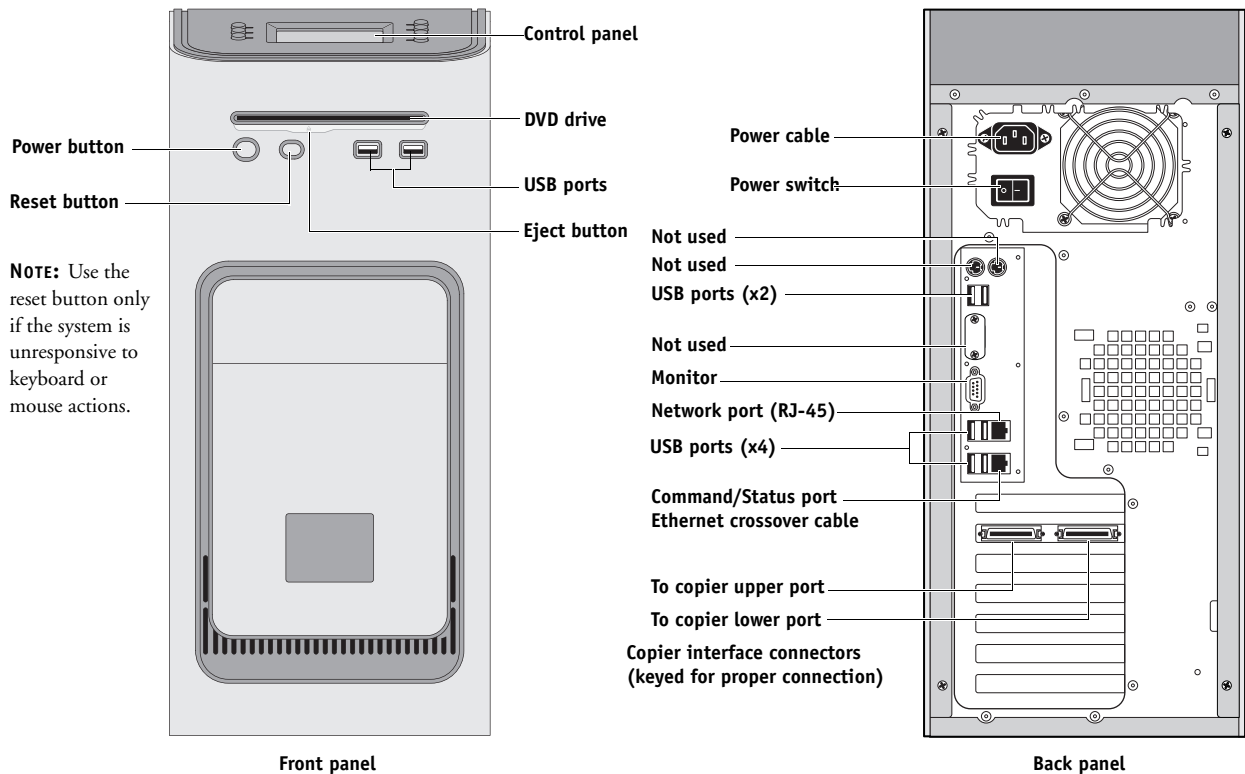

FIGURE 5: imagePRESS Server connections
1. Connect the recessed end of the imagePRESS Server power cable to the power connector on the back of the imagePRESS Server (see Figure 5 on page 28).
Each cable connector is designed to fit only one way when properly oriented. If a cable connector does not fit into an interface port, change the orientation of the cable. Do not force a connection that is mis-keyed. Doing so may permanently damage the port or the cable (see Figure 5 on page 28).
3. Connect the network cable to the upper network port on the back of the imagePRESS Server (see Figure 5 on page 28).
The straight-through Ethernet network cable and the Command/Status Ethernet Crossover cable included with the imagePRESS Server look similar, but are not interchangeable. Make sure that you attach the *straight-through* Ethernet network cable to the upper RJ-45 port on the imagePRESS Server back panel (see Figure 5 on page 28).